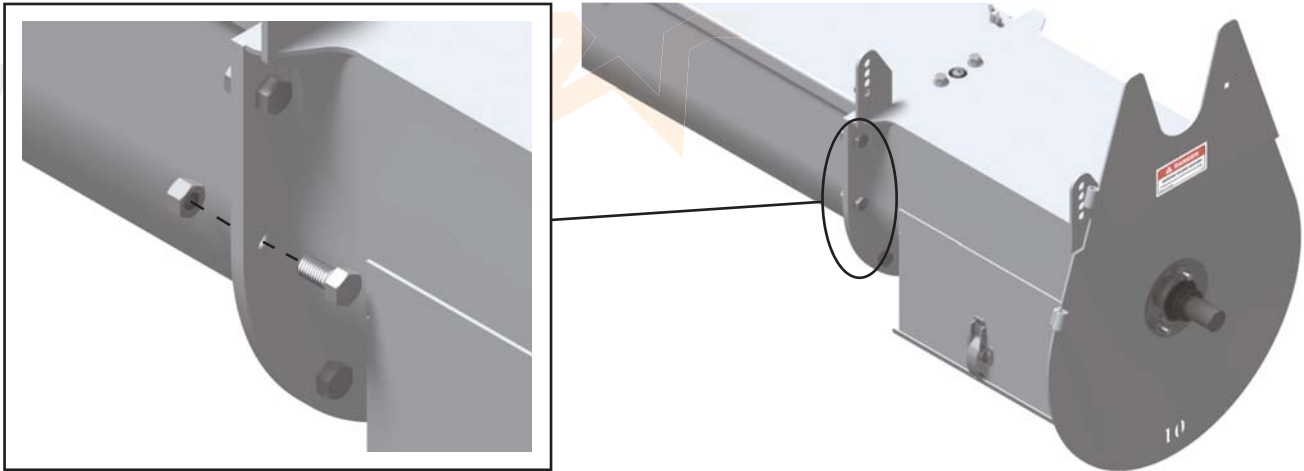

Figure 43
Using seven (7) 1/2" x 1 1/2" Bolts and seven (7) 1/2" Nylon Locknuts, secure the Powerhead Assembly to the U-Trough. (see **Figure 43**)